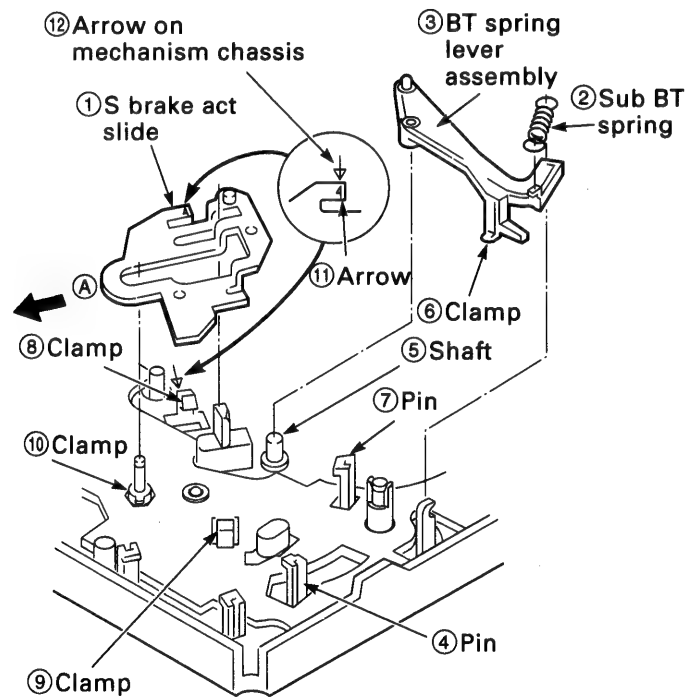
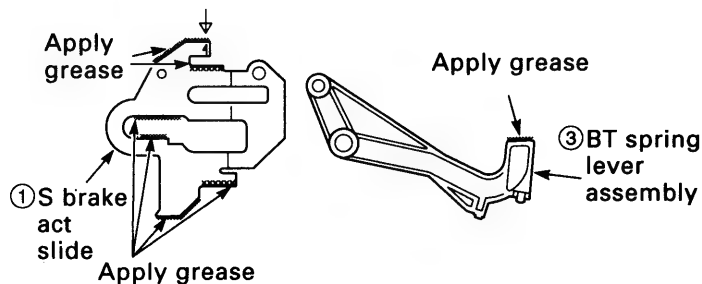

Fig.3-13-3
Fig.3-13-4
(See Figs.3-13-3 and 3-13-4)
1. Apply grease (VHJ-0100) to the shaft ⑤ shown in Fig. 3-13-3, and to the BT spring lever assembly ③ and the S brake act slide ① shown in Fig.3-13-4.
2. After mounting the BT spring lever assembly ③ on the Shaft ⑤, hook the BT spring onto the clamp ⑥ and press it until it touches the pin ⑦.
3. Make sure that the clamps ⑧, ⑨ and ⑩ have snapped into the S brake act slide ①. Align the arrow ⑪ on the S brake act slide ① with the arrow ⑫ on the mechanism chassis.